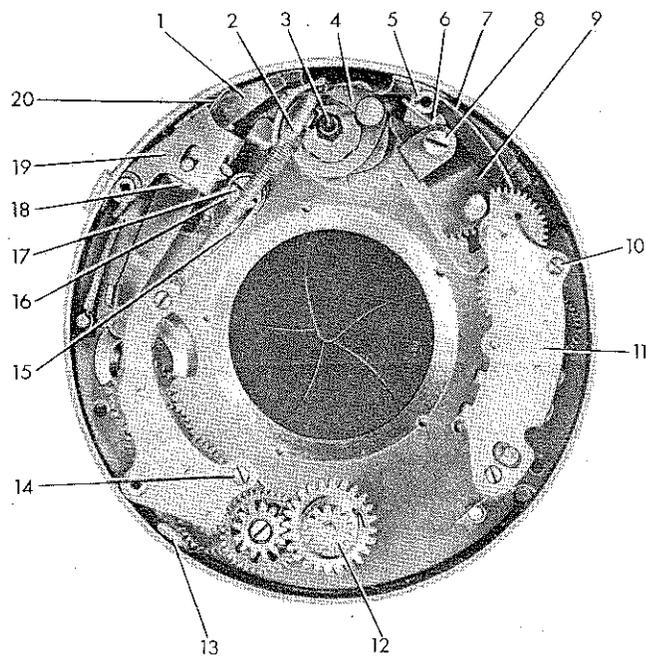
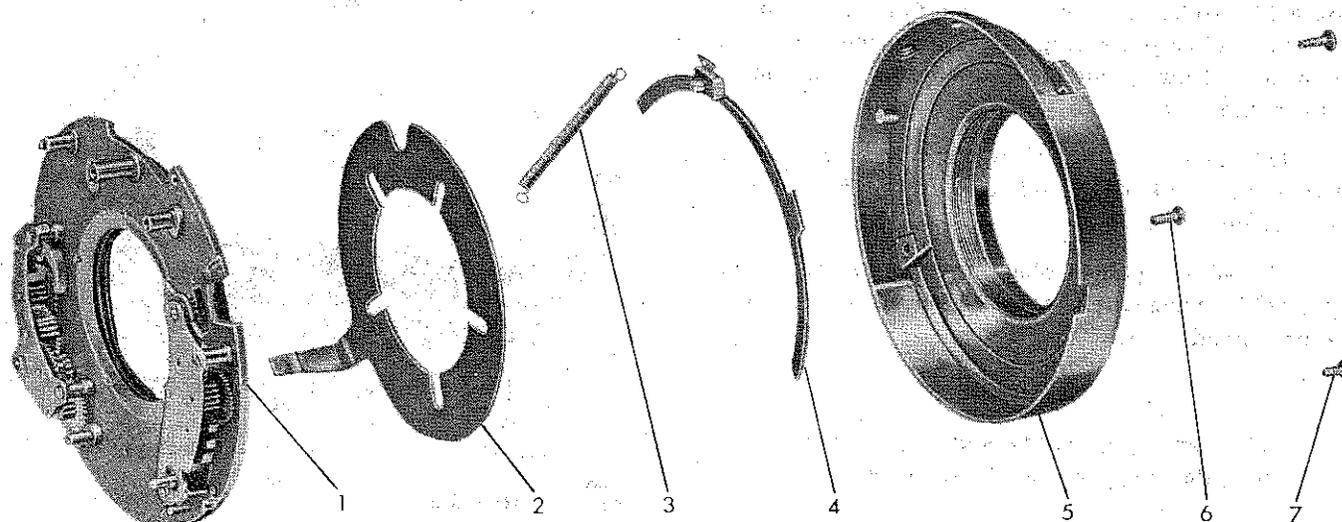

Figure 36—Shutter after Removal of Cover
Figure 40—Shutter Mechanism Plate Complete, Exploded from Case
(3) PARTS ON MECHANISM PLATE. (See figure 36.)
(b) Remove the long plate locating screw (6, figure 40) which screws into the stud on the delayed action gear plate with stud assembled (14, figure 36).
(d) Turn the case over and remove the remaining long plate locating screw (6, figure 40). Then, holding the mechanism plate complete (1, figure 40) in place with the fingers, remove the short plate screw (7, figure 40). Again turn the case over and lift out the mechanism plate complete.
(g) Lift the diaphragm ring (2, figure 40) out of the case, and unhook the setting lever spring (3, figure 40) from the case with cable release nut (5, figure 40) and from the setting lever with stop stud (4, figure 40).